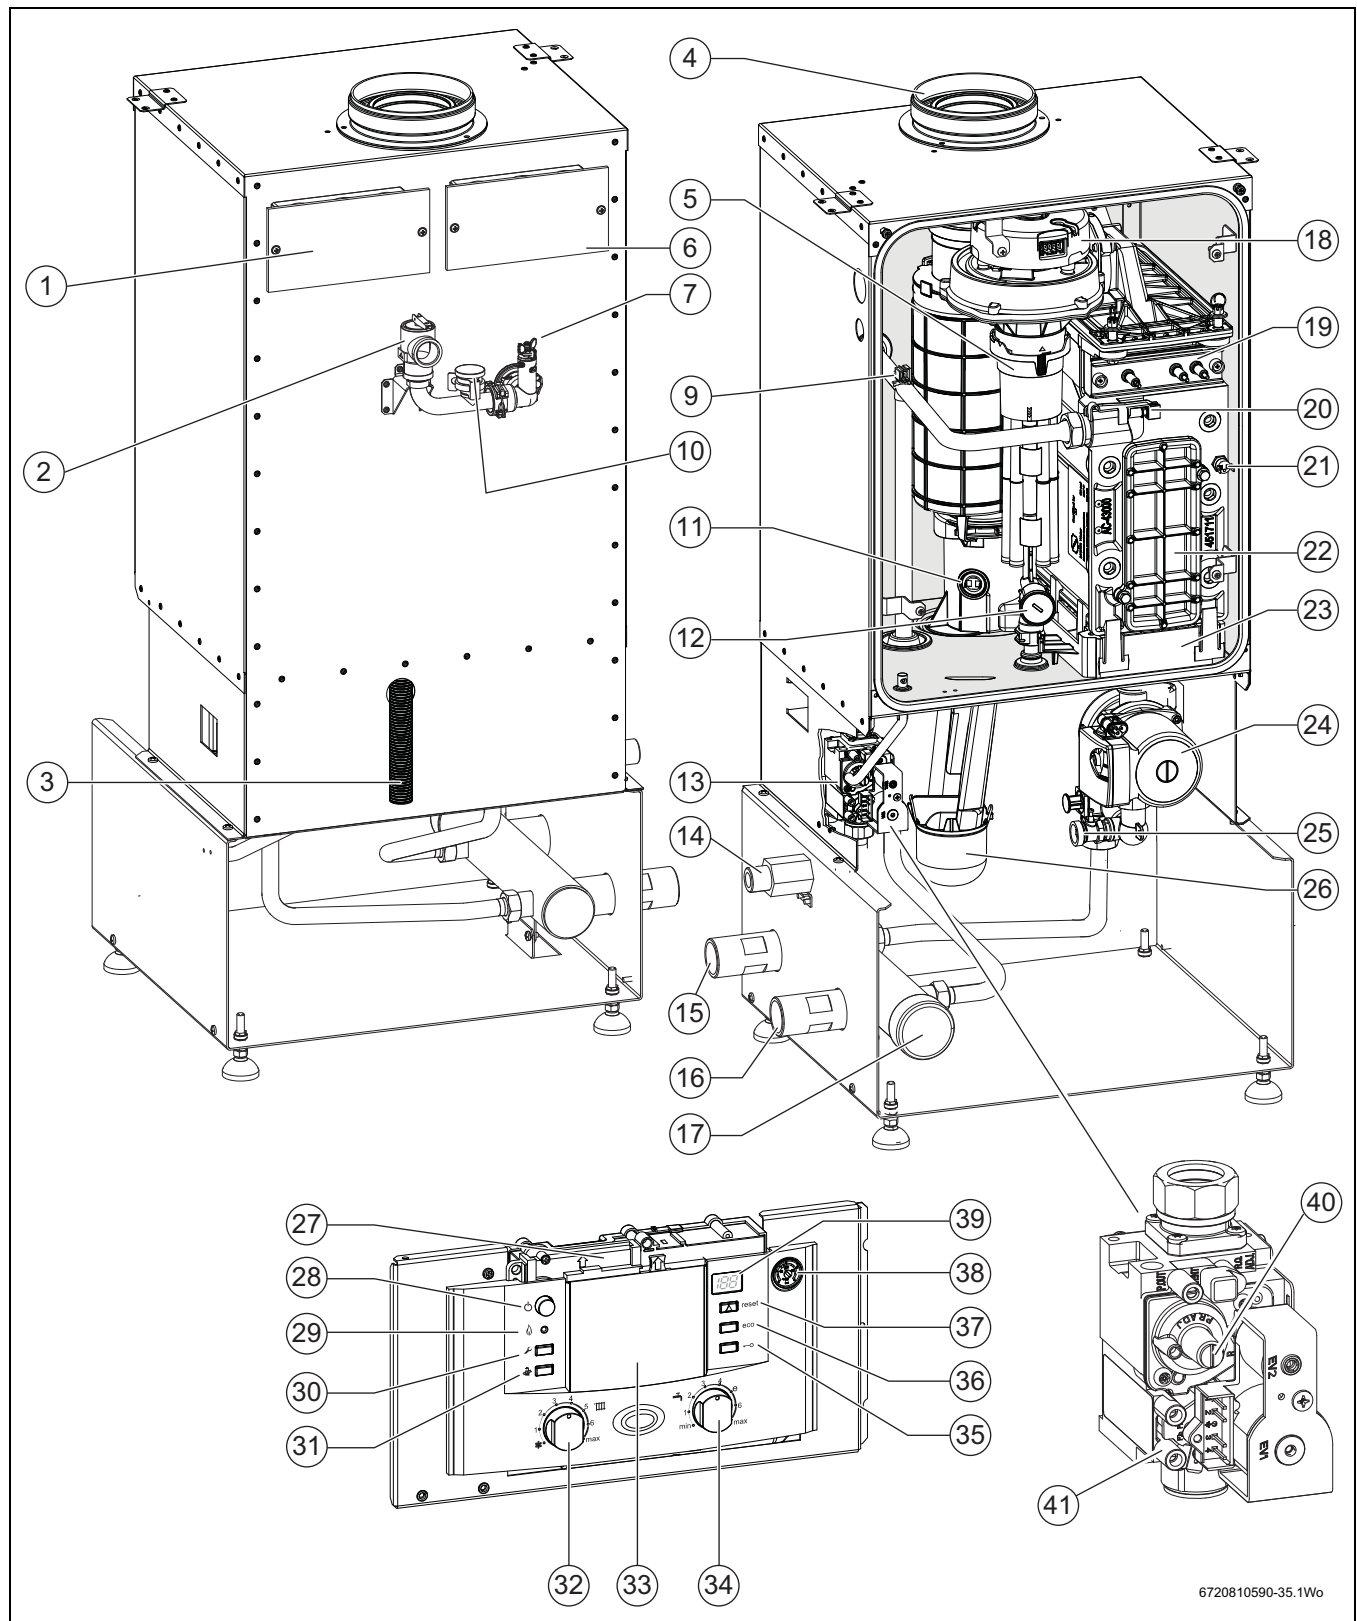

Fig. 6 Appliance layout heating boiler KBR...-3A
**Key to Fig. 6 Heating boiler KBR..-3A:**